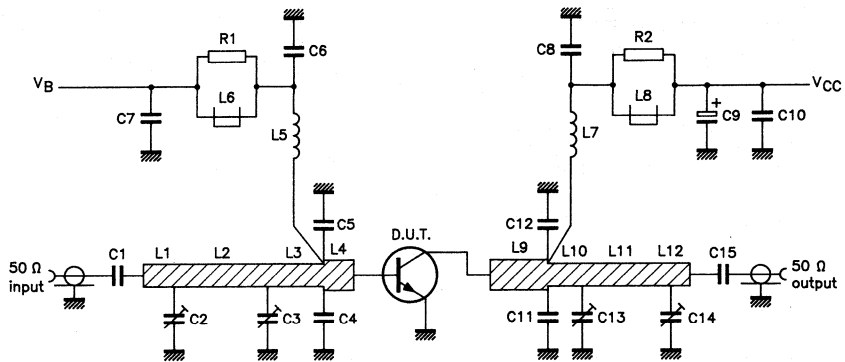

Fig.9 Test circuit BLV100 class-AB.
**UHF power transistor****BLV100****List of components (Fig. 9)**